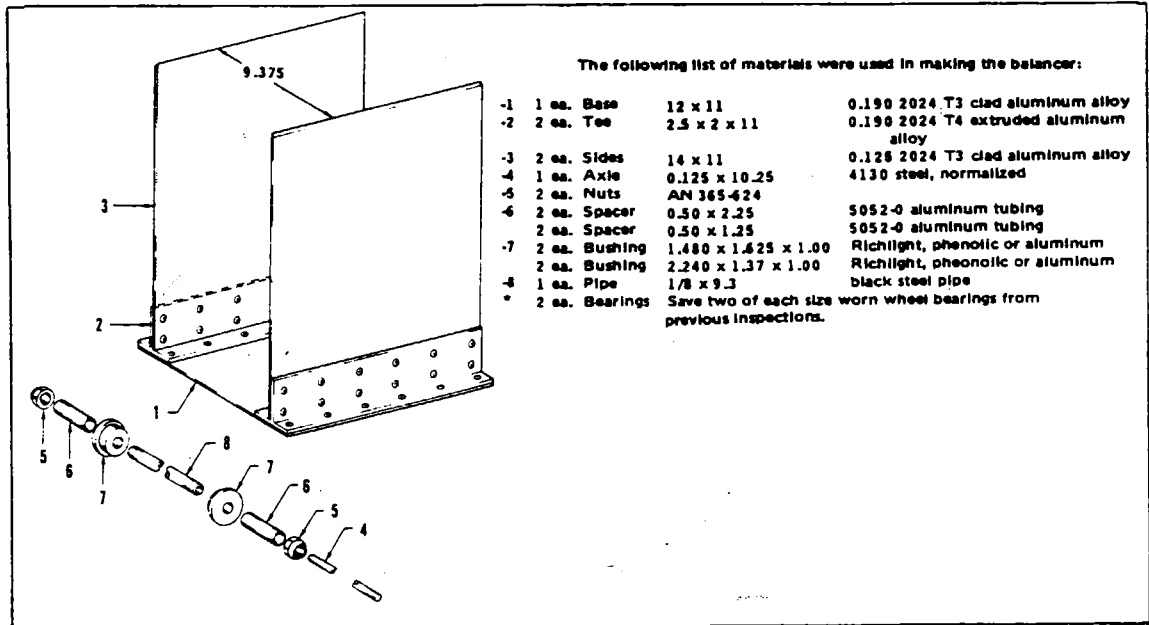

Figure 2-9a. Tire Balancer.
2-32c. **TIRE BALANCE.** (Refer to Figure 2-9a.) Proper balancing is critical for the life of aircraft tires. If a new tire is balanced upon installation it will usually remain balanced for the life of the tire without having any shimmy or flat spots, and an inexpensive balancer can be made that will balance almost any tire for light aircraft. Balance the tire as follows:
e. The following instructions will help in building the balancer: (Refer to Figure 2-9a.)